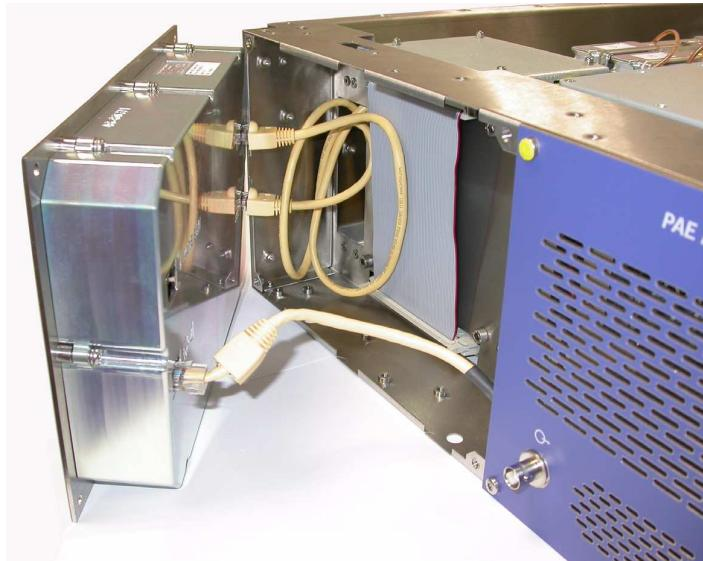

Fig 5-12 Replacing the Control Head (2)
- (2) Pull the Control Head forward to access the three cables that connect to the control head's rear plate (Fig 5-12).